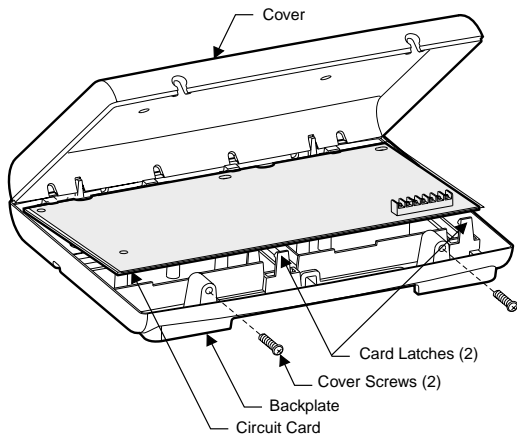

Figure 4. Removing Plastic Case Cover and Circuit Board
2. Remove the module cover and circuit board and set them aside (Figure 4).